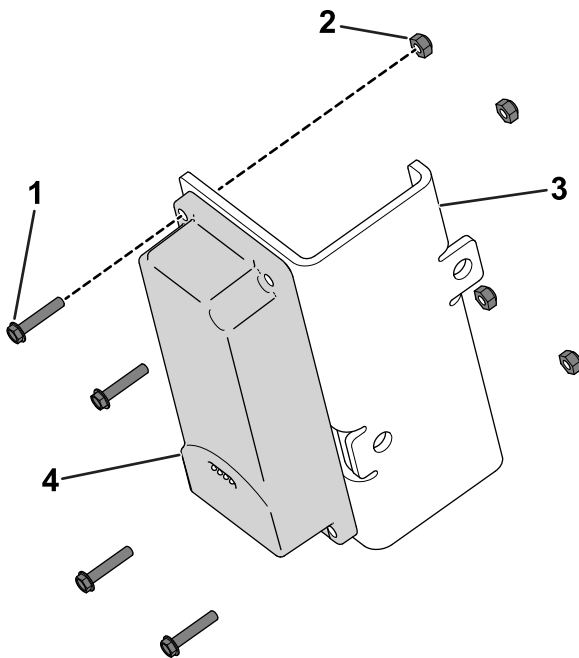

Figure 7
1. Use 4 hex-head bolts (#10 x 1 inch) and 4 locknuts (#10) to secure the telematics device to the device bracket (Figure 7).